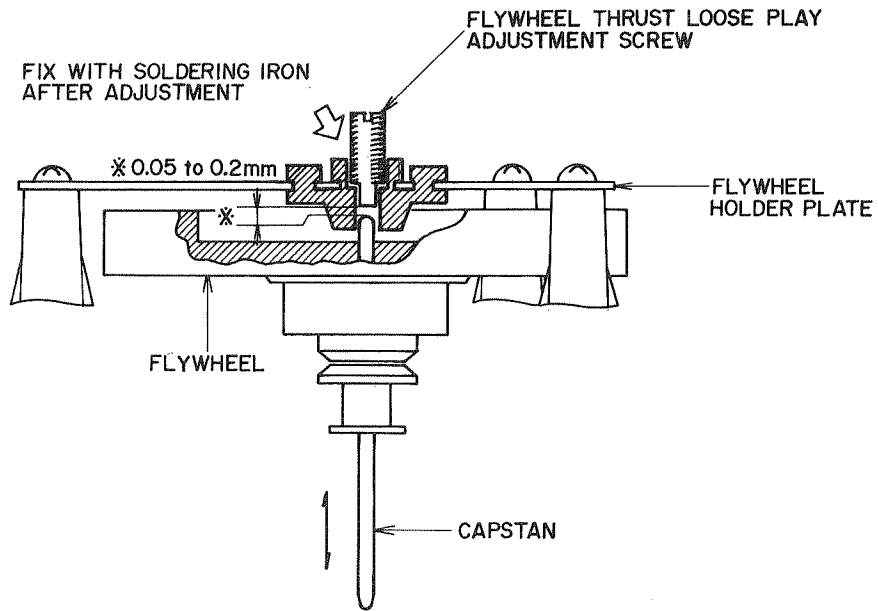

Fig. 3 Flywheel Thrust Loose Play Adjustment
1. FLYWHEEL THRUST LOOSE PLAY ADJUSTMENT (Refer to Fig. 3)